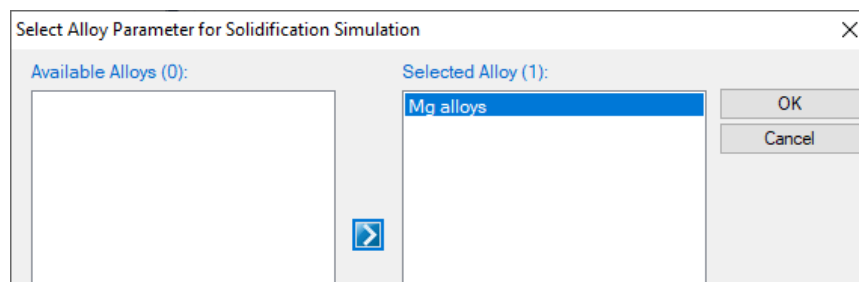

Figure 5.1.1: Loading the MgAlloys.sdb file.
- Load SDB file Mg_Alloys.sdb through menu PanSolidification → Load SDB or by click icon , select the available alloys: Mg alloys, as shown in Figure 5.1.1.